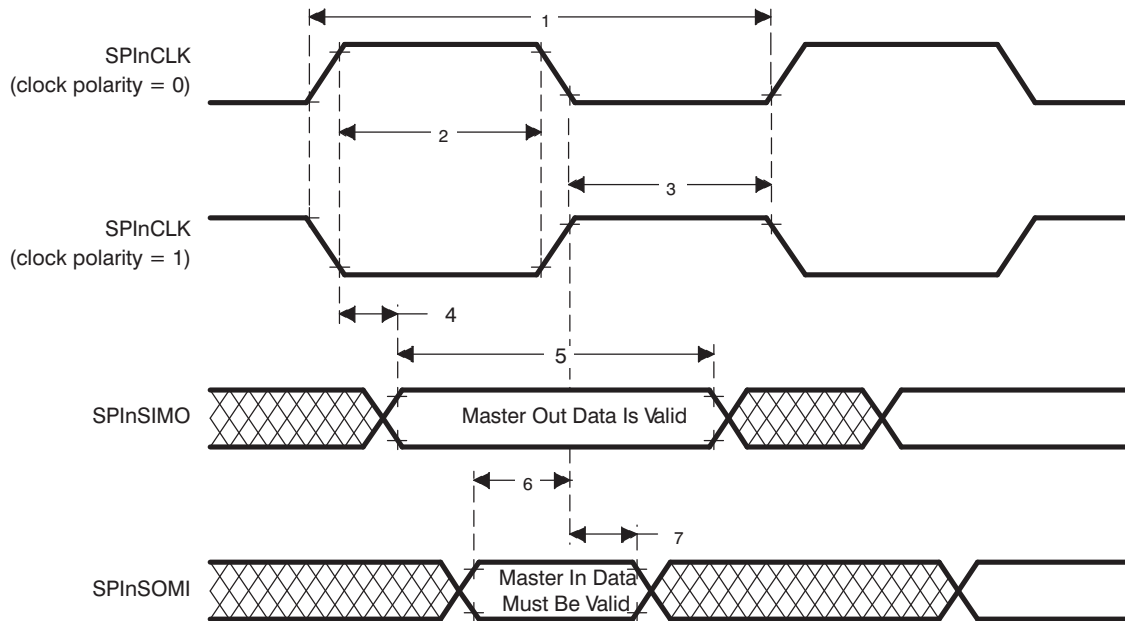

Figure 16. SPIn Master Mode External Timing (CLOCK PHASE = 0)
(CLOCK PHASE = 0, SPInCLK = output, SPInSIMO = output, and SPInSOMI = input)^{(1)(2) (3) (4)} (see Figure 16)